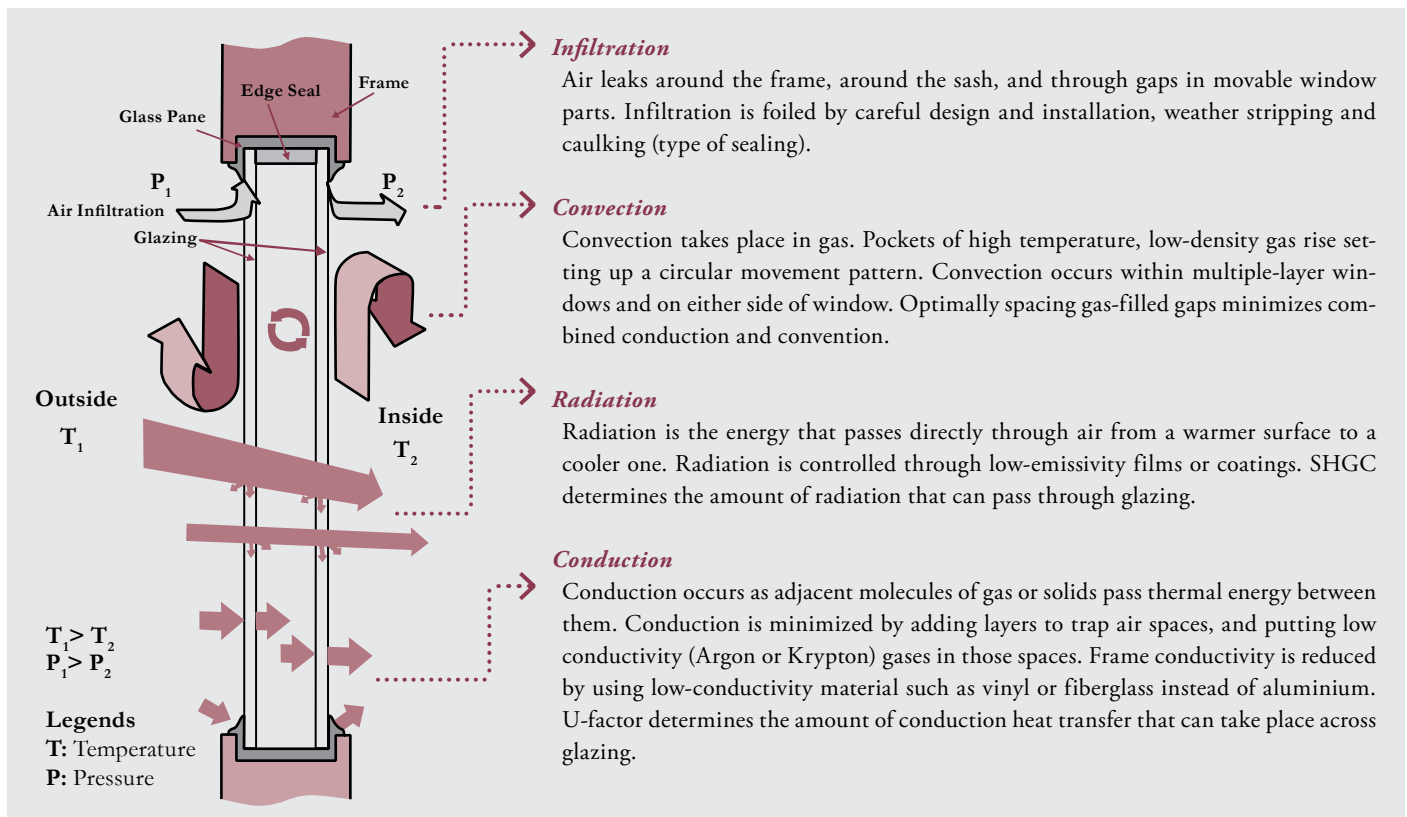

Fig. 8: Heat and Air Movement through Double Glazing Window System
- Infiltration & exfiltration, the unwanted air movement through windows and envelope surfaces, is caused by a pressure difference (air moves from high pressure to a lower pressure—Fig. 8). Limiting air infiltration and exfiltration is key to improving energy efficiency; look for opportunities to include a continuous membrane or roll-applied continuous air barrier, which can also serve as the building's primary bulk moisture control layer.